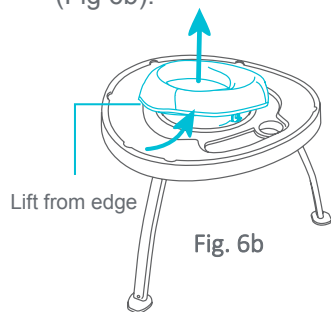

Fig. 6b
- From the top of the Table Top, use the edge of the seat to lift it off the tabletop (Fig 6b).